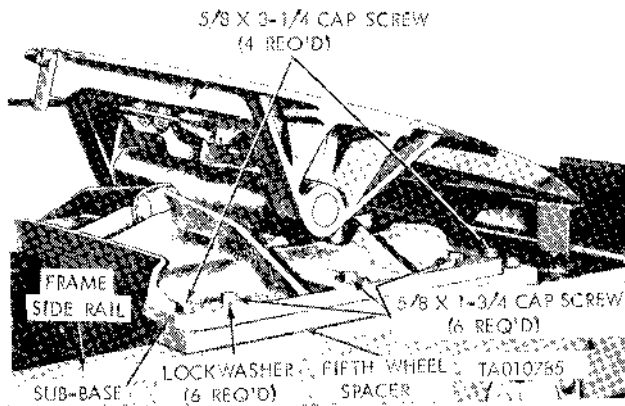
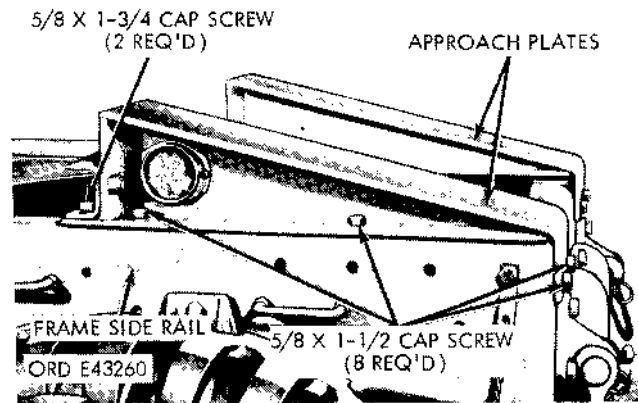
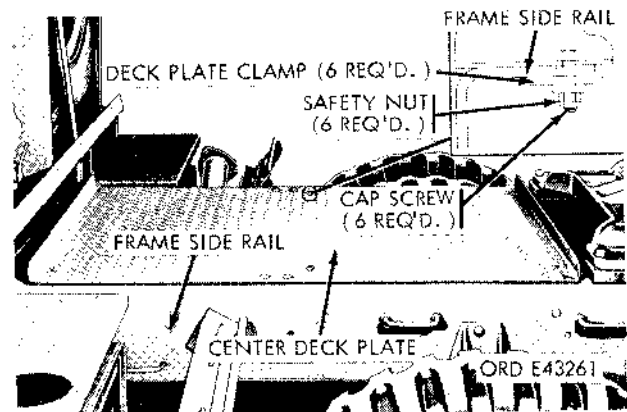

Figure 2-213. Fifth wheel—M52, M52A1, and M52A2.
Figure 2-214. Approach plate—M52, M52A1, and M52A2.
Figure 2-215. Center deck plate—M52, M52A1, and M52A2.
a. *General.* The fifth wheel assembly on the above models includes the fifth wheel, the approach plate, and the center deck plate. The fifth wheel (fig. 2-213) is bolted to the inside of the side rails. The approach plate (fig. 2-214) and center deck plate (fig. 2-215) are bolted directly to the frame left and right side rails.
### b. Fifth Wheel (fig. 2-213).
c. *Approach Plate (fig. 2-214).*
d. *Center Deck Plate (fig. 2-215).*